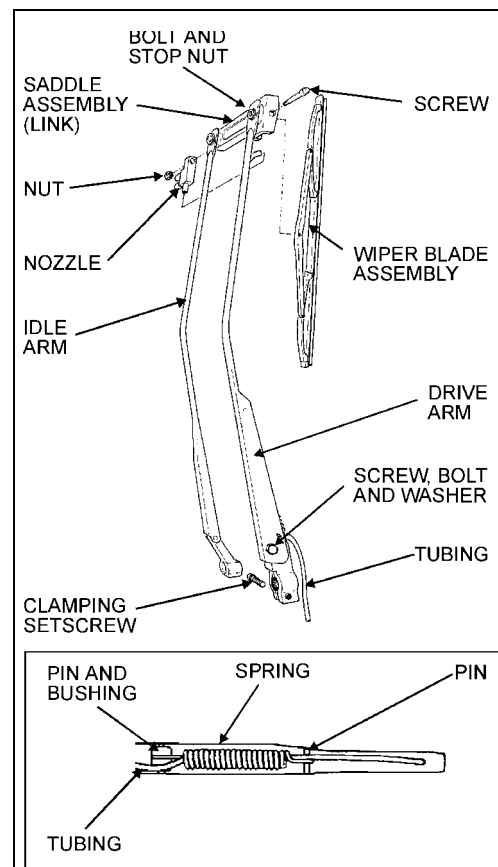
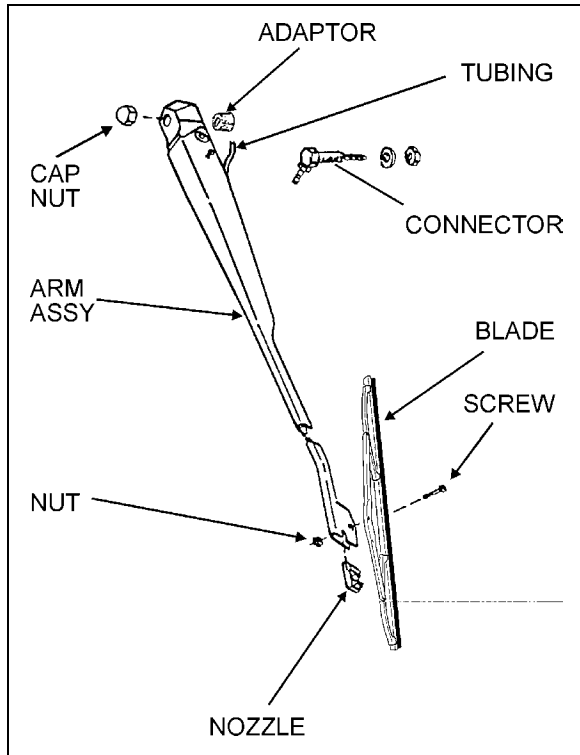

FIGURE 32: LOWER WINDSHIELD WIPER
FIGURE 33: UPPER WINDSHIELD WIPER 23087
1. Remove the cap nuts from the wiper arm pivot shafts (Fig. 32 or 33).
2. Disconnect the windshield washer tubing at the base of the wiper arm (Fig. 32 or 33).
3. Lower windshield wiper (Fig. 32) : Loosen the clamping setscrew securing the drive arm to the knurled arm pivot shaft.
4. Remove the drive and idler arms (Fig. 32) or arm assy (Fig. 33).
5. Relocate the drive arm (Fig. 32) or arm assy (Fig. 33) on its knurled pivot shaft to obtain the desired position.
6. Lower windshield wiper (Fig. 32) : Tighten the clamping setscrew to secure the drive arm to the knurled shaft. Fit the idler arm onto the idler arm pivot shaft.
8. Connect the windshield washer tubing at the base of the wiper arm (Fig. 32 or 33).
9. Check the adjustment on a wet windshield (Fig. 32 or 33).
1. Remove the cap nuts from arms (Fig. 32 or 33).
4. Lower windshield wiper (Fig. 32): Loosen the clamping setscrew on the base of the drive arm.
5. Remove the wiper arm assembly (Fig. 32 or 33).
1. Make sure the wiper motor is in the park position. Lower windshield wiper (Fig. 32): position the wiper arm on the knurled drive shaft and idler arm on the pivot shaft. Upper windshield wiper (Fig. 33): position the wiper arm assy on the knurled drive shaft.
4. Lower windshield wiper (Fig. 32): Tighten clamping nut on the drive arm. Install cap nuts to arm shafts (Fig. 32 or 33).
5. Connect the windshield washer tubing at the base of the wiper arm (Fig. 32 or 33).
6. Check the adjustment on a wet windshield (Fig. 32 or 33).